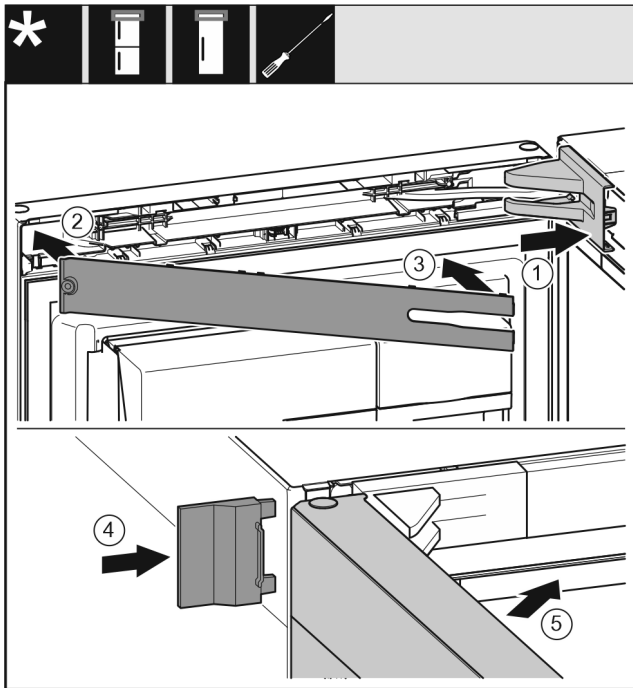

Fig. 32
- ▶ Put the swap bearing block cover Fig. 32 (1) on and engage, push apart carefully if required.
- ▶ Fit the trim Fig. 32 (2).
- ▶ Swivel in the cover Fig. 32 (3) and engage.
- ▶ Push the outer cover Fig. 32 (4) on.
- ▶ Close the upper door Fig. 32 (5).